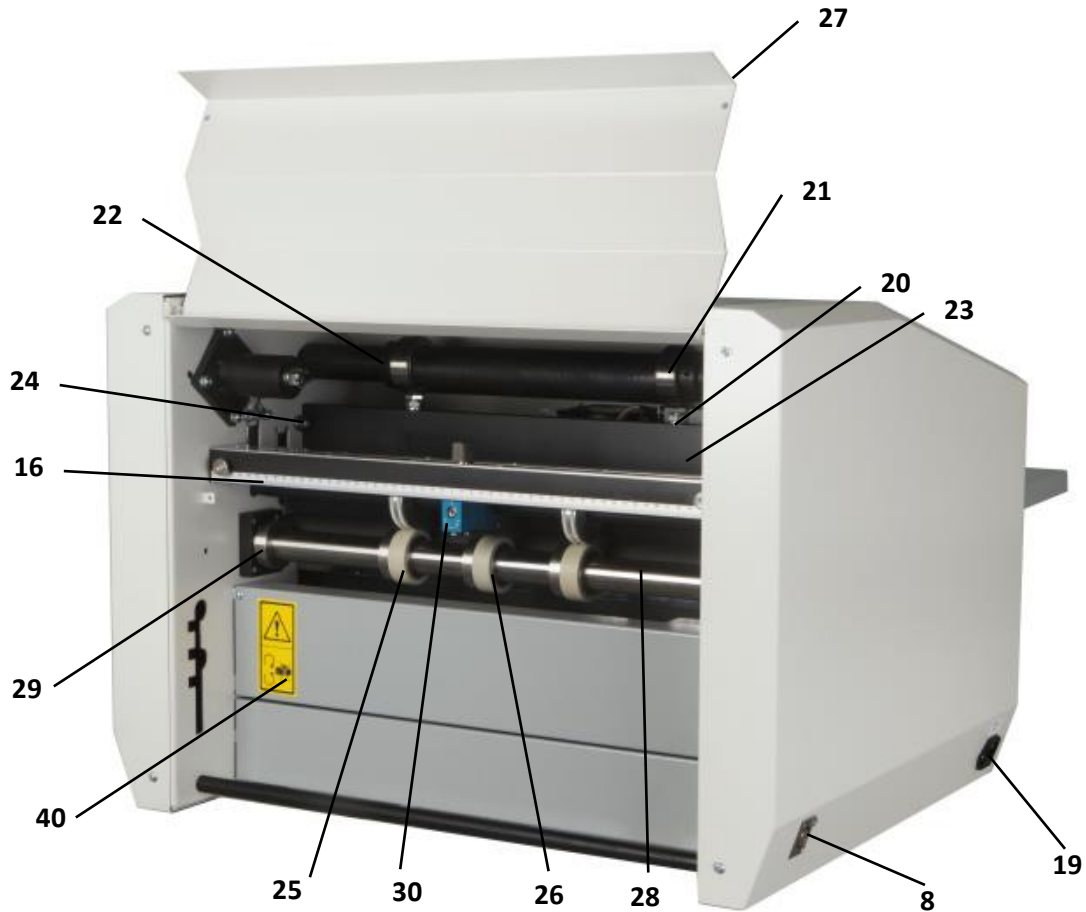

Fig. 2: Rear View of the Machine
| 4 – Electric switch | 16 – Ruler (Fig. 2) |
| 7 – Delivery table | 19 – Plug socket (Fig. 2) |
| 8 – Plug for TriFold 360 (Fig. 2) | 20 – Tool thrust regulation screw (Fig. 2) |
| 9 – Side guide lock | 21 – Needle bearing (Fig. 2) |
| 10 – Side guides turning screw | 22 – Safety ring (Fig. 2) |
| 11 – Front table | 23 – Top bar (Fig. 2) |
| 12 – Side guide | 24 – Top bar bearing (Fig. 2) |
Alternatively, you may remove the whole shaft (28) and add or remove pulleys as required. In order to remove the shaft, use an Allen key to loosen the screw on the fixing sleeve (29 – Fig. 2) and push the sleeve aside. Then move the whole shaft to the left (in the direction of the side of the machine) and remove the shaft from the machine. Before you do so, make sure the perforating (cutting) wheels are placed in the non-working position!